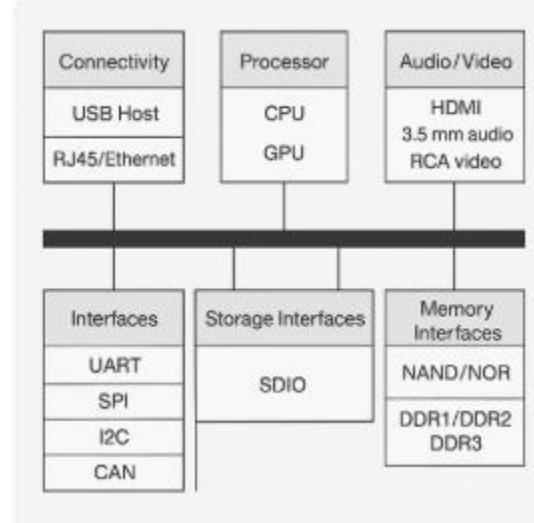

Figure 4.1: Block Diagram of an IoT device
*Figure 4.1 shows a typical block diagram of such a system, highlighting the integration of CPU, GPU, RAM, storage units, and I/O interfaces.*